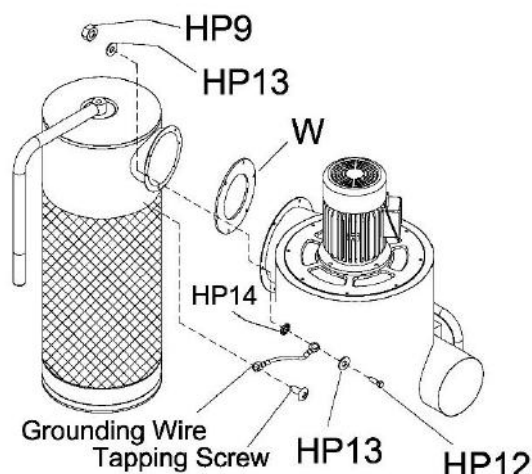

Figure 9
10. Place gasket (W) between canister filter and main housing. Install canister filter onto main housing using the hex cap screws (HP12), washers (HP13), and nuts (HP9). You must attach the canister filter ground wire to the nearest connection point as Shown in Figure 9.
The grounding wire is pre-attached to the canister filter. When installing the canister filter onto the main housing, you must connect the ground wire to the main housing as shown in Figure 9. Be sure and use the star washer (HP14) when making this connection. Position the star washer (HP14), grounding wire, and flat washer (HP13) as shown in Figure 9.